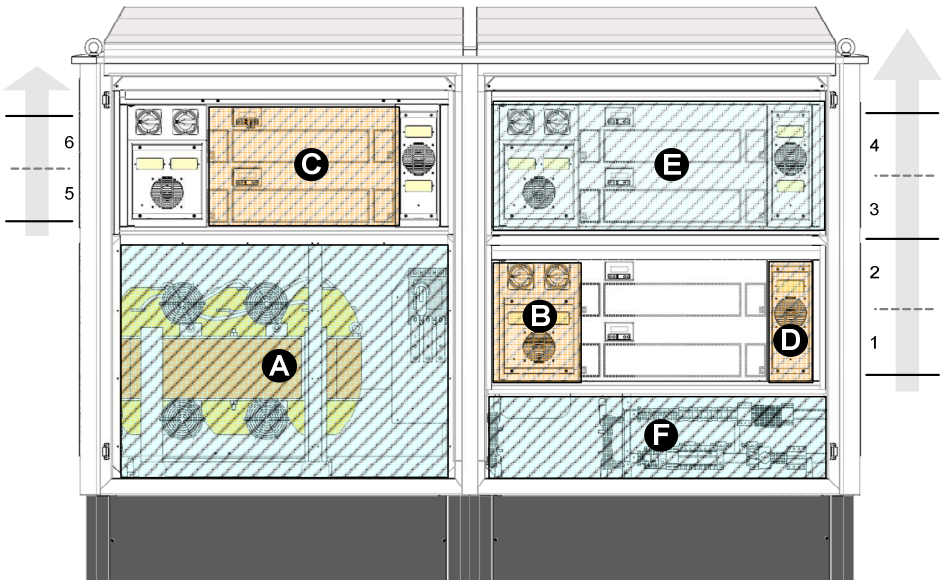

Figure 5-1: General overview of the PVI-CENTRAL-XXX (US or CAN)
Figure 5-1 shows the main components of the PVI-CENTRAL-XXX (US or CAN). The main characteristic of the device for these models is the presence of an insulation Transformer together with three FRAMEWORK-(E) (two overlapping and one above the Transformer compartment) to contain five or six power modules “MODULI 50 kW”.
The insulation Transformer is located in the ACBOX T (Figure 5-1 (A)).
The enumeration of modules is similar to the one indicated in Figure 5-1. The right-lower module will always have the number 1, while the final number depends on the inverter model (e.g. for the model from 250kW the enumeration ranges from 1 to 5).